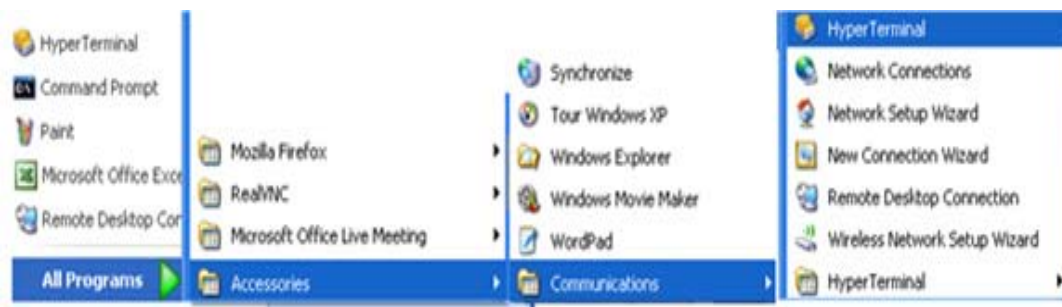

Figure E-2. Launch HyperTerminal application
1. Open HyperTerminal applications as shown in Figure E-2